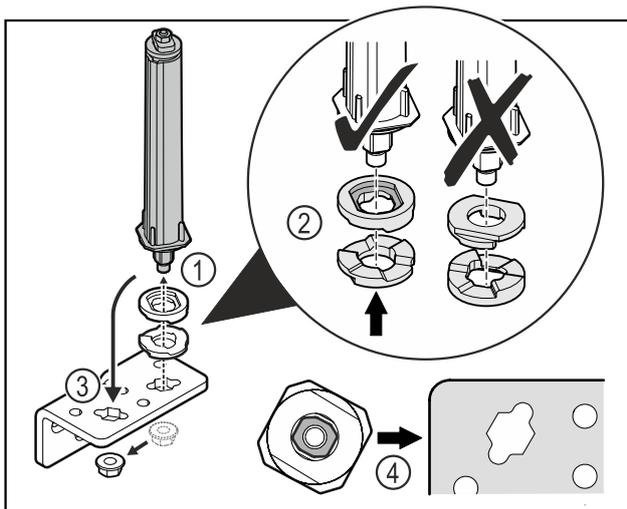

Fig. 26
- ▶ Loosen the nut and remove the door closing system Fig. 26 (1).
- ▶ Observe the correct alignment of the height adjustment washers Fig. 26 (2).
- ▶ Put the door closing system in the hinge and fix in place with the nut Fig. 26 (3).
- ▶ Observe the correct alignment of the door closing system when doing so Fig. 26 (4).